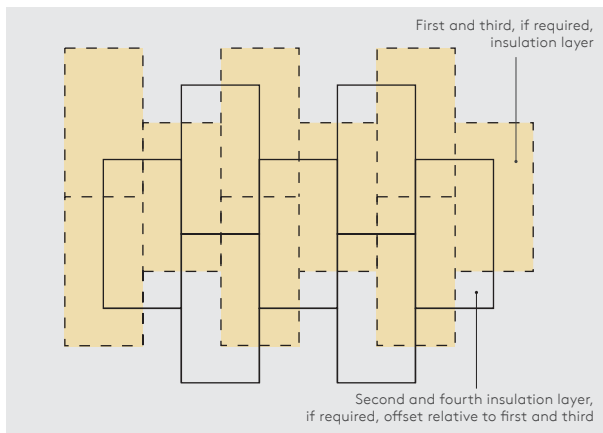

Figure 5 - Offsetting of multiple insulation layers
- If two or more layers of insulation are required, they should be horizontally offset relative to each other so that, as far as possible, the board joints in any two adjacent layers do not coincide with each other (see Figure 5).